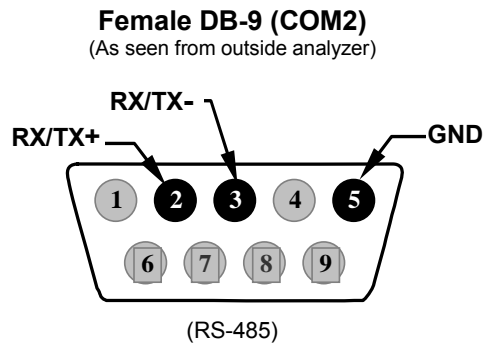

Figure 7-6: Back Panel connector Pin-Outs for COM2 in RS-485 mode.
- To reconfigure COM2 as an RS-285 port set switch 6 of SW1 to the ON position (see Figure 7-6).
- The RS-485 port can be configured with or without a 150 Ω termination resistor. To include the resistor, install jumper at position JP3 on the CPU board (see Figure 7-6). To configure COM2 as an un-terminated RS-485 port leave JP3 open.